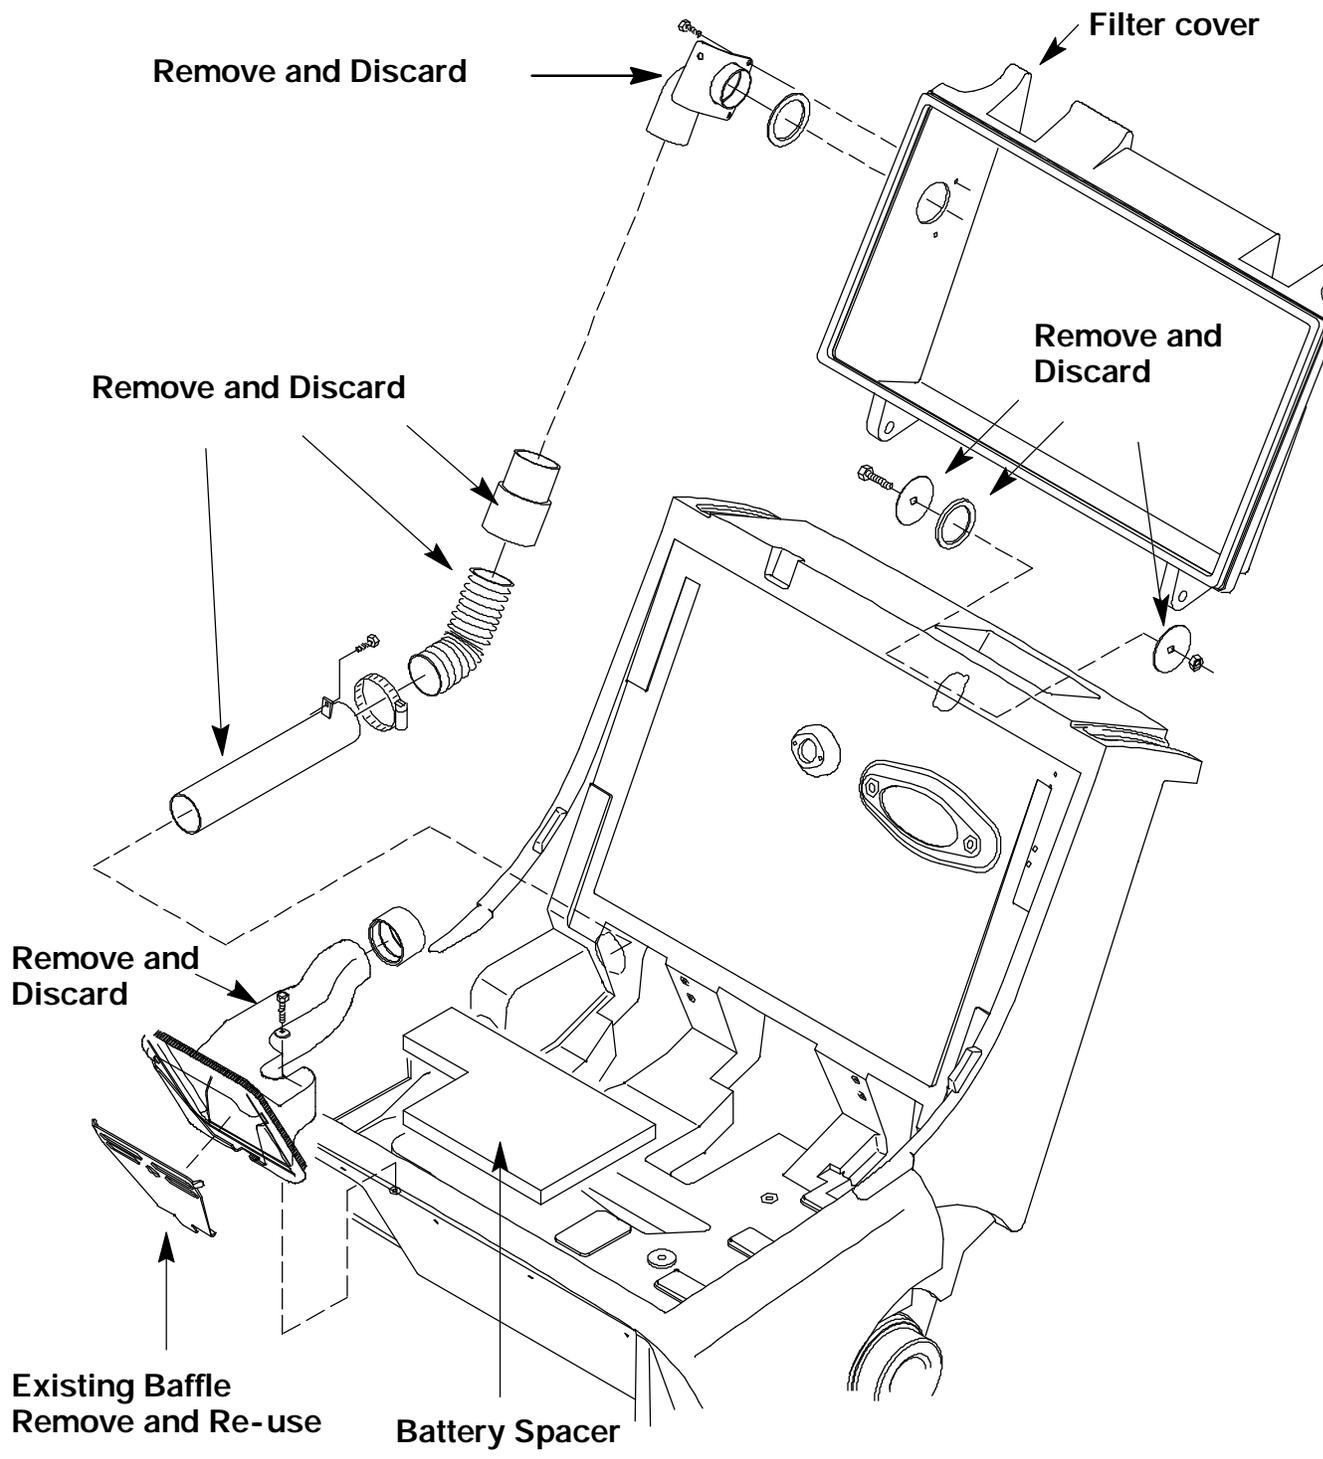

FIG. 1 High Air Flow Assembly Removal
(Refer to FIG. 1 thru 4)
(Refer to FIG.1)
(Refer to FIG. 1)
2. Remove and discard the the hose elbow coupling from the filter cover. (Refer to FIG. 1)
3. Remove and discard the washers and seal from the frame. (Refer to FIG. 1)
5. Remove and discard the battery spacer. (Refer to FIG. 1)
7. Remove the hex screw holding the existing vacuum chamber in the machine. Remove the vacuum chamber from the machine. Remove the steel baffle from the vacuum chamber. Discard the vacuum chamber. Install the steel baffle into the new vacuum chamber (5). (Refer to FIG. 1 and 2)